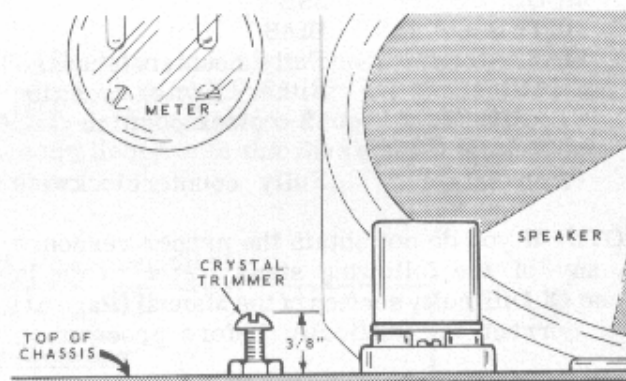

Figure 5
- () Preset the brass screw in each of the two crystal trimmer capacitors; the top of each screw head should be 3/8" above the top of the chassis, as shown in Figure 5.